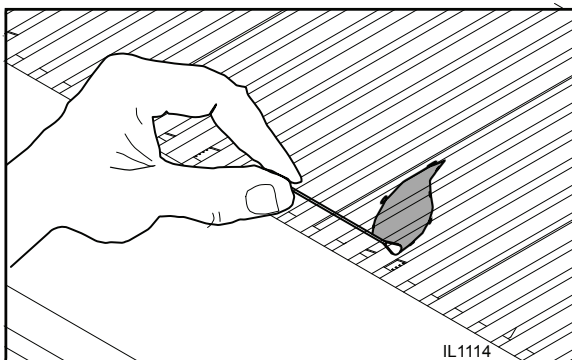

Fig. 2, Use the lighter rod with a lit match to ignite the igniter tube if the igniter button fails.
4. If the igniter button does not light the burner after several tries, turn red knob to OFF position and use the lighter rod supplied with the unit to hold a match to light the igniter tube. Push and turn the red knob counter clockwise to the "ON" position and using a lit match attached to the lighter rod, insert this down through the grates to light the 3/8"D igniter tube. (Fig 2)